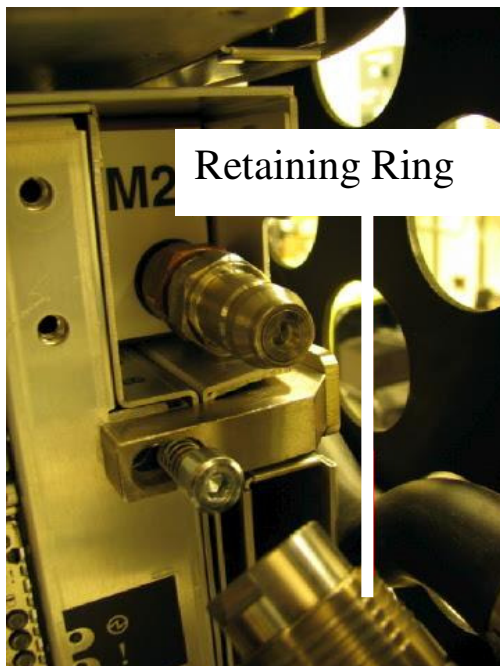

Figure 22 Water Hose Connector
STEP 24 Disconnect the 2 Water Hoses from the rear of the Disk Enclosure by pulling the retaining ring on the hose (see Figure 22 Water Hose Connector).